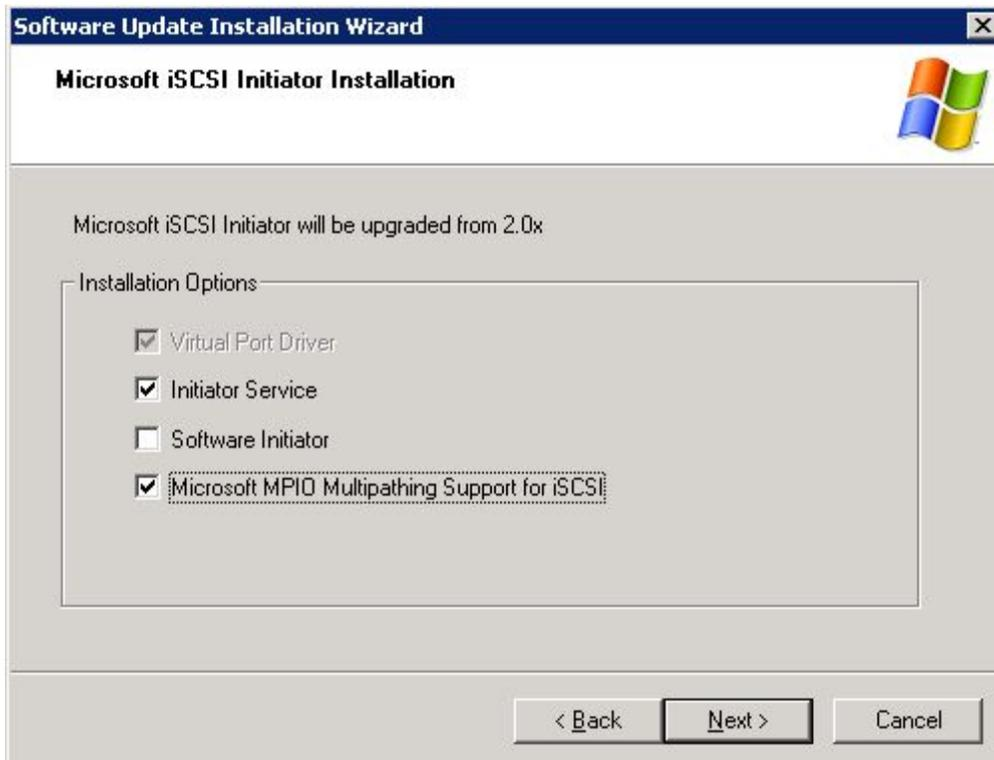

Figure 56 Microsoft iSCSI Initiator services screen
1. Access the Microsoft iSCSI Initiation Installation page of the Software Update Installation Wizard (Figure 56)